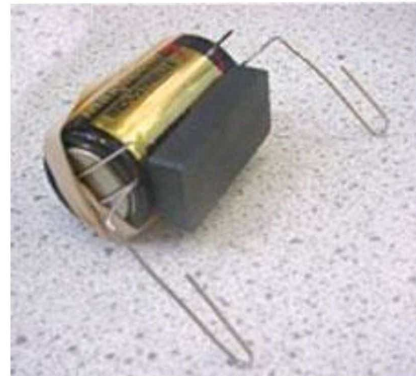

Figure 5. Battery end view, with ceramic magnet in place.
6. Place a ceramic magnet on the side of the battery (it will “stick” to the battery) as shown in Figures 5.